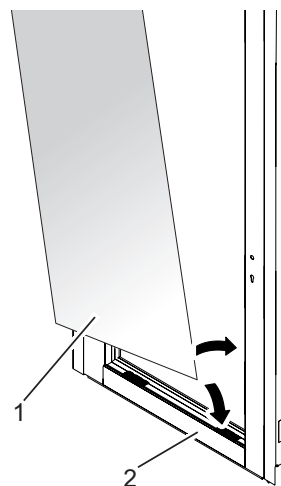

Fig. 32: Inserting the glass panel
2. Insert glass panel (Fig. 32/1) into panel (Fig. 32/2).